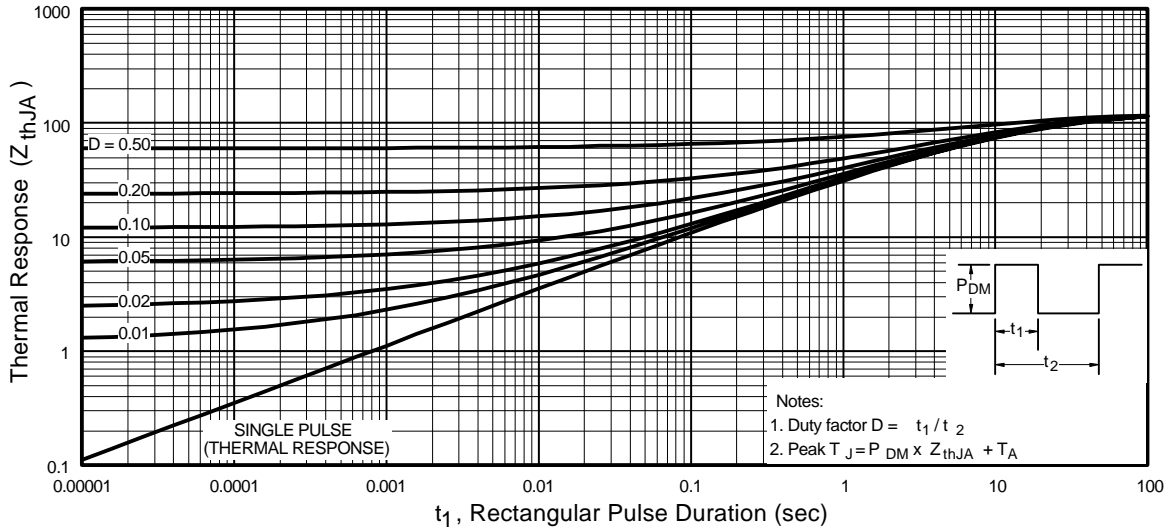

Fig 11. Maximum Effective Transient Thermal Impedance, Junction-to-Ambient
- ① Repetitive rating; pulse width limited by max. junction temperature. (See fig. 11)
- ② Starting $T_J = 25^\circ\text{C}$, $L = 25\text{mH}$